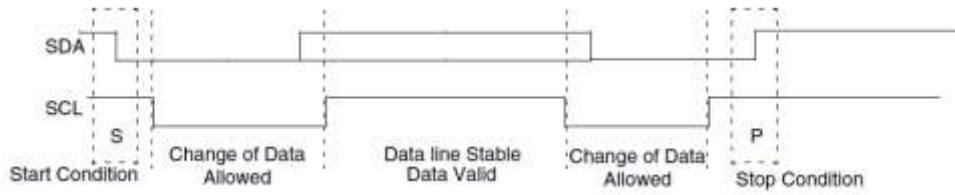

Figure 71: START and STOP Conditions
When the bus is idle, both the SCL and SDA signals are pulled high through external pull-up resistors on the bus. When the master wants to start a transmission on the bus, the master issues a START condition. This is defined to be a high-to-low transition of the SDA signal while SCL is 1. When the master wants to terminate the transmission, the master issues a STOP condition. This is defined to be a low-to-high transition of the SDA line while SCL is 1. Figure 71 shows the timing of the START and STOP conditions. When data is being transmitted on the bus, the SDA line must be stable when SCL is 1.
**Note:** The signal transitions for the START/STOP conditions, as depicted in Figure 71, reflect those observed at the output signals of the Master driving the I2C bus. Care should be taken when observing the SDA/SCL signals at the input signals of the Slave(s), because unequal line delays may result in an incorrect SDA/SCL timing relationship.